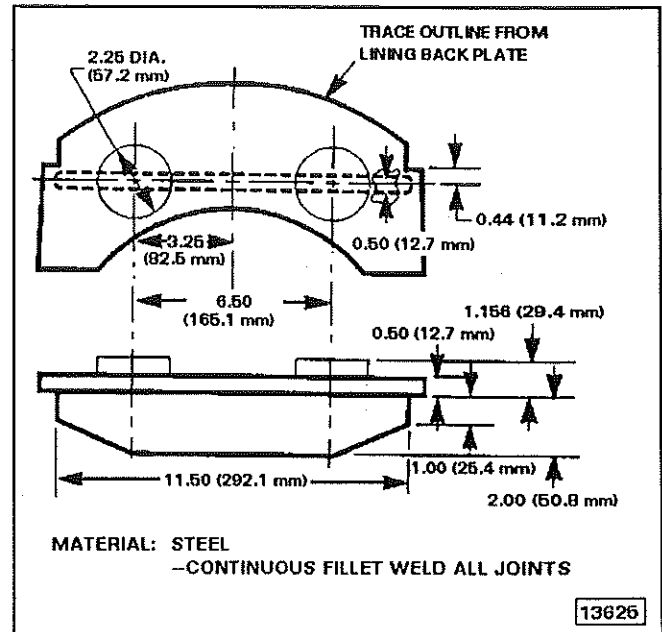

FIGURE 12 - FUNCTION TEST THRUST PLATE
f. Functional test thrust plate as shown in Figure 12.